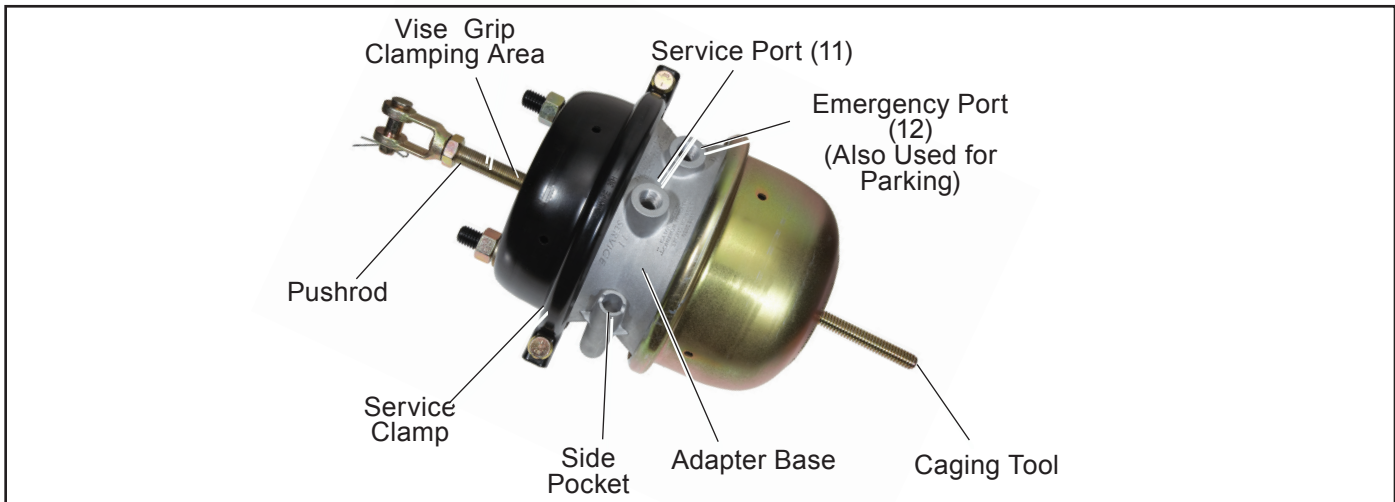

Figure 4 – Caged Spring Brake Chamber
9. Rotate the release bolt nut clockwise until an increased resistance is encountered. This should indicate that proper caging is complete. The release bolt should be extended all the way back, as shown in *Figure 4*. (DO NOT OVER TORQUE RELEASE BOLT. OVER TORQUING CAN CAUSE SPRING BRAKE DAMAGE).
IMPORTANT: To ensure the power spring is fully caged, the extended release tool length should be fully backed out as shown in *Figure 4*.